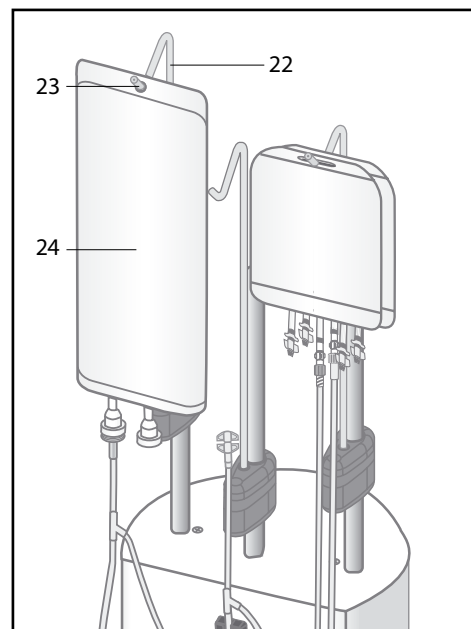

Figure 42: Attach CliniMACS PBS/EDTA Buffer for Research Use to bag hanger.
2. Attach the buffer bag (24) to the buffer bag hook (23) on the bag hanger (22, fig. 42).
3. Adjust the height of the buffer bag hanger. Raise or lower the hanger to accommodate the size of the buffer bag. Ensure that it is positioned high enough to prevent severe bending of the tubing that could restrict the flow and that it is low enough to avoid the tubing or connections being stretched (see fig. 42).